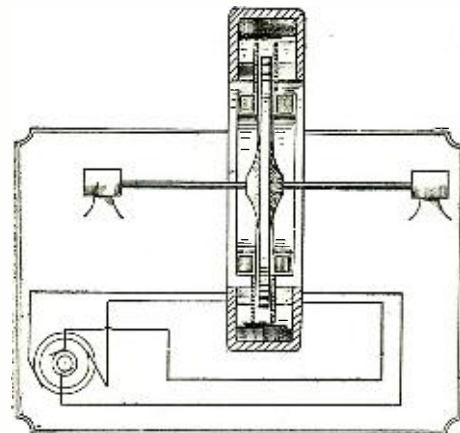

Fig. 3. Another form of Fessenden's high speed electric drive. In this case the disc forms the rotor of a high frequency alternating current motor.
**Fig. 3** shows the arrangement of the sheath used by Dunoyer and Toulon for the purpose of controlling the arc easily.
These tubes, as far as we have described them, are of types well known for years past. Now for a statement of what Dunoyer and Toulon did that was new. They merely provided the tube on the outside with a short, close-fitting, sliding metal sheath, as shown at S, Fig. 3. For producing the effects to be described the length of this sheath is of little importance—a tube 3 to 5 inches long will do. The best position for
the sheath for producing clean results is near the anode, about as shown in Fig. 3. If the lamp, provided with the sheath, is operated on D.C., the sheath produces no effect on the discharge, no matter to what potential it may be charged, or how it may be hooked into the circuit. On A.C. supply, however, the sheath has a marked influence.
"The method of driving shafts at high angular velocities which consists in mounting upon the shaft to be driven, the rotor of a high frequency alternating motor which is supplied with current from a high frequency current generator," and the illustration Fig. 3, showing a high frequency dynamo (100,000 cycles) driven by a 500-cycle motor, and having a smooth surface rotor. The first commercial gyro-compass was made in Germany, for the German submarines, about 1908, but it has since been immensely improved and the principle applied most ingeniously to a great variety of other uses, on aircraft as well as on shipboard, by Sperry.